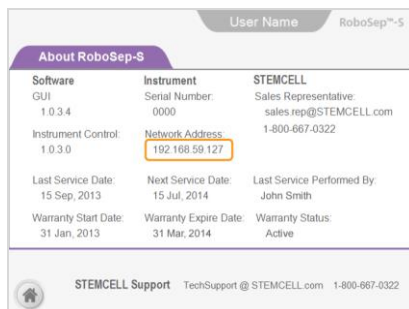

Figure 12. Help Screen
3. Note the Network address (IP address) that appears on the Help screen (Figure 12).